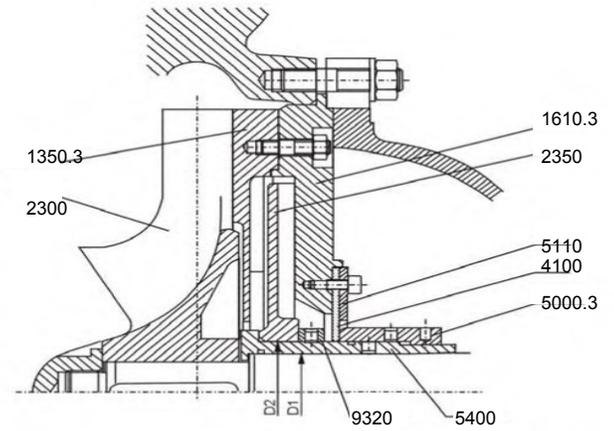

Fig. 29
6.2.6 Dynamic shaft seal (DYNA)(Fig.29):